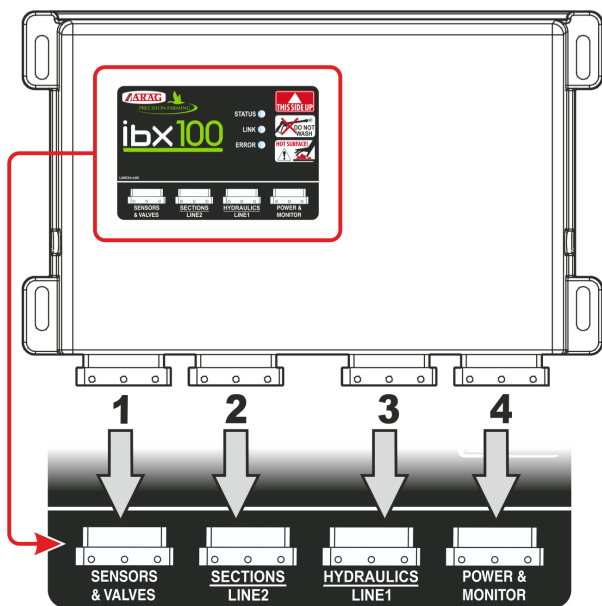

Fig. 6
**WARNING: DO NOT CONNECT ISOBUS CONNECTOR (Fig. 6 on page 8). THIS CONNECTION MUST BE CARRIED OUT LATER, ONLY AFTER INSTALLING ALL THE COMPONENTS (Chap. 7 ISOBUS system cable connection).**